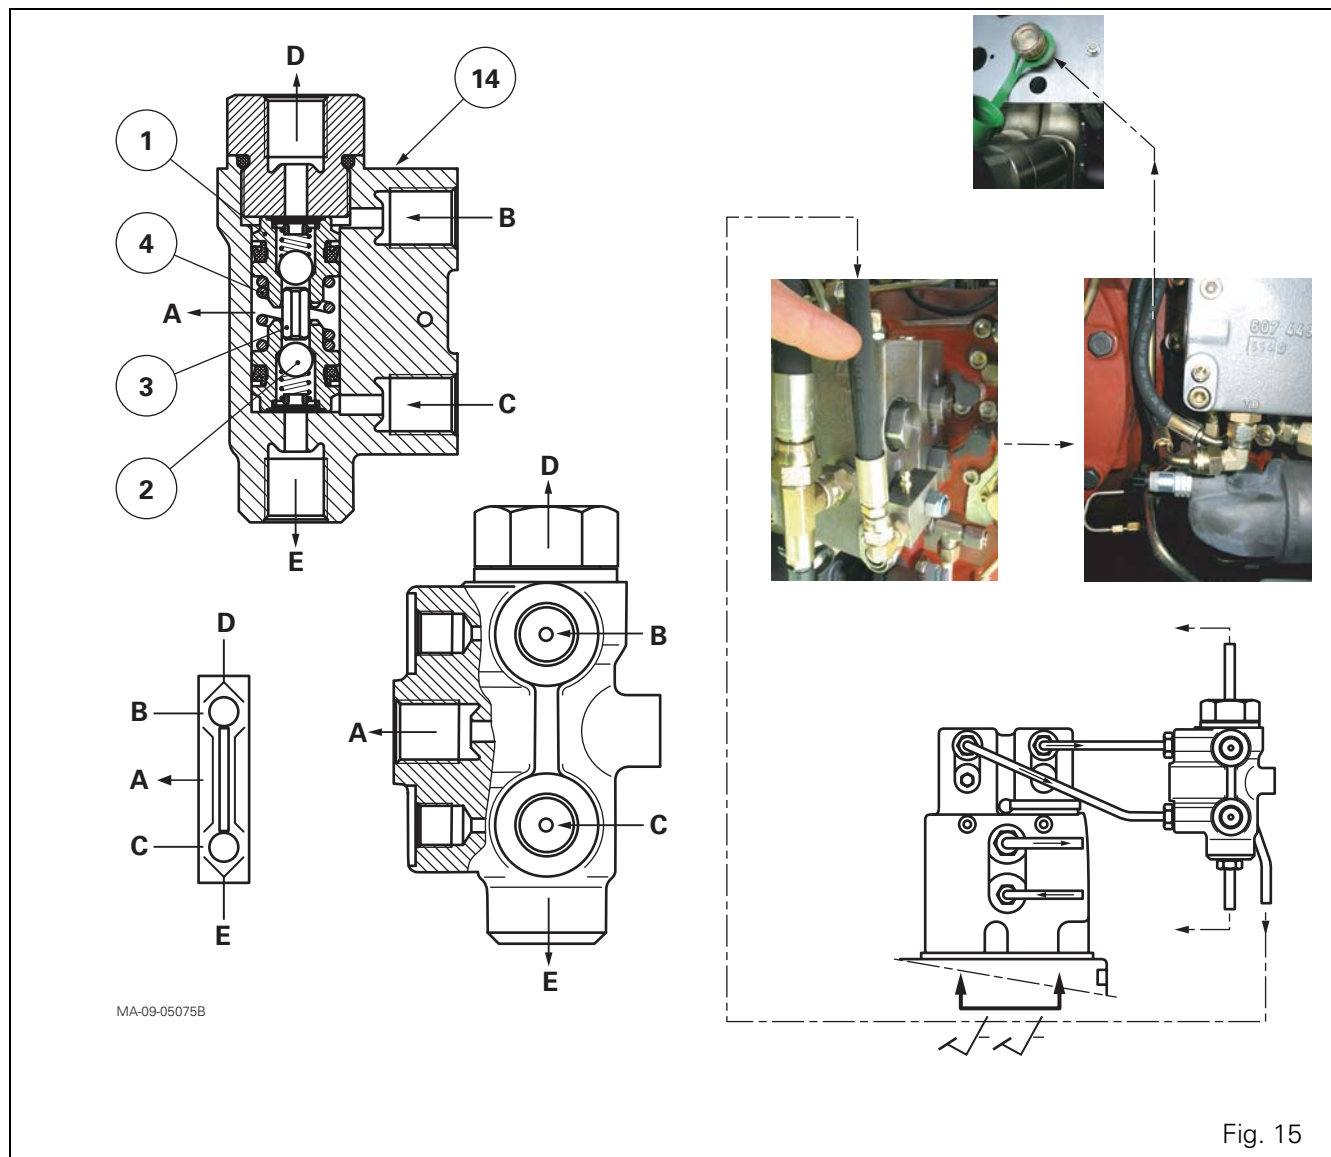

Fig. 15
Parts list (Fig. 15)
The FTE valve (14) (Fig. 15) is an essential component of the trailer brake system.